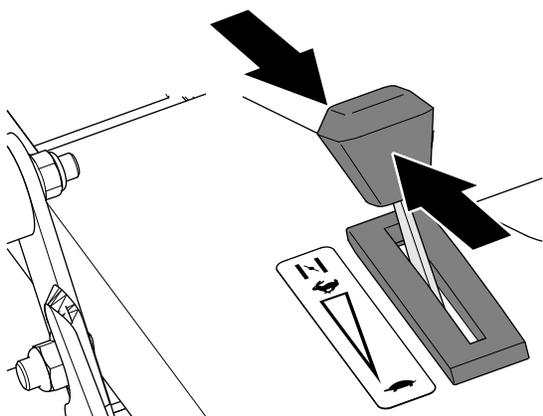

Figure 13
- If the engine is warm, move the throttle control to the FAST position (Figure 13).